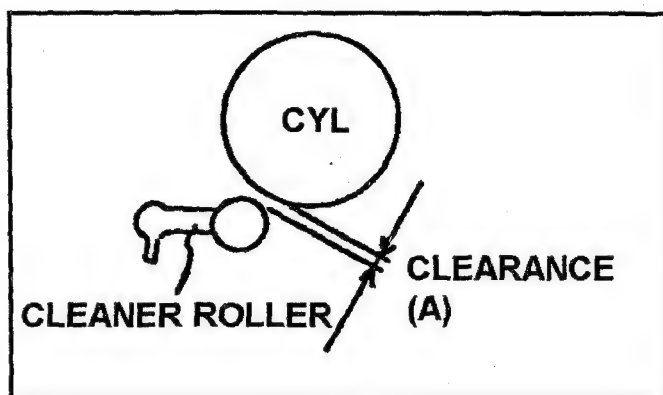

Fig. M22
1. Observe the clearance (A) between Cleaner Roller and Cylinder Unit as shown in Figure M22. And make sure that it is within 1.0 to 1.2mm.
2. If not, loosen the 2 screws (B) and adjust the position of Cleaner Base Plate by moving to arrow direction (A ⇄ A) with the Eccentric Driver so that the clearance (A) is within specification. And tighten the 2 screws (B).